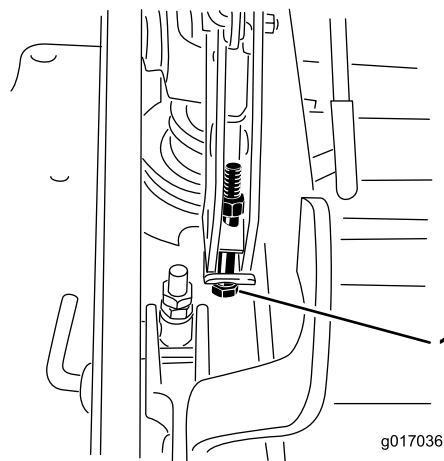

**Figure 91**
12. To adjust the single-point system, loosen the 2 bolts at the bottom of the height-of-cut plate (Figure 91).
14. Tighten the 2 bolts at the bottom of the height-of-cut plate (Figure 91).